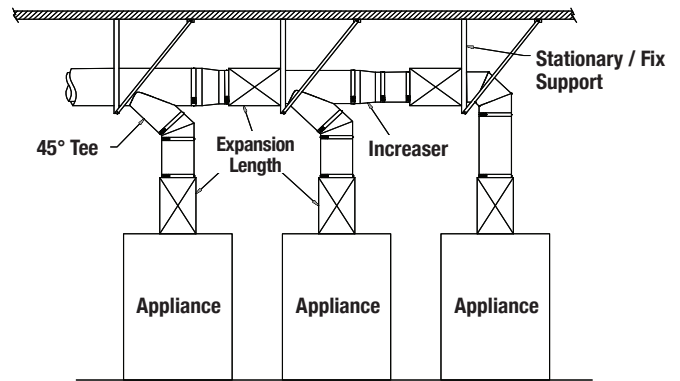

Figure 13 - Multiple appliance connection with 45° tees
2. When using 45° tee to connect multiple appliances together, thermal expansion must be considered. Thus prepared to prevent bending moments on the tee, an expansion length must be installed between the tees (see **figure 13**).